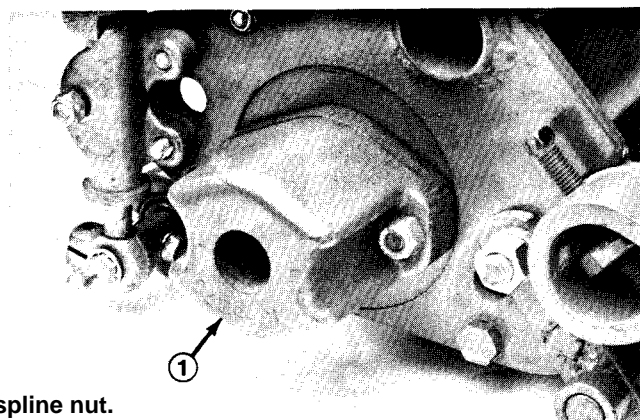

Figure 6
1. Remove the mounting nuts from the counterbalance end cap and remove end cap from the mounting studs (Fig. 6).